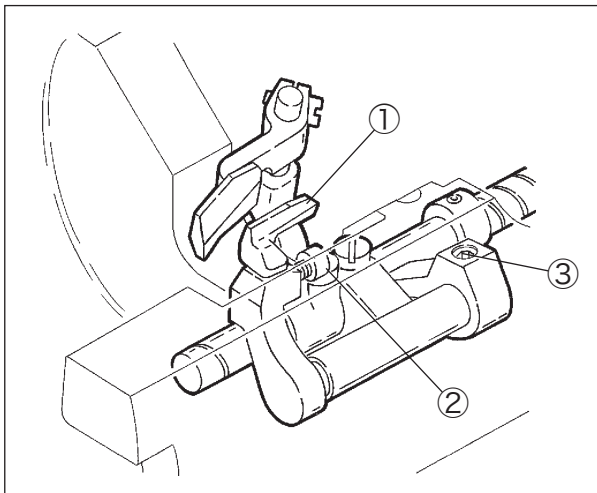

Fig. 6-29
- (1) Loosen the screws ②③. (Fig. 6-29)